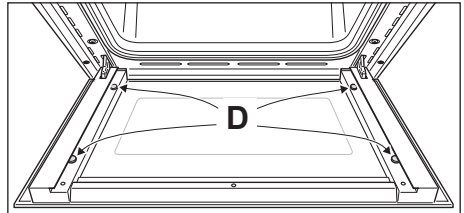

Figure 43
IMPORTANT: It is advisable, while removing the glass, to keep pressed in position the four rubber pads "D" (fig. 43), by a finger, to avoid breakage or slippage of the rubber pads themselves.
- Check that the four rubber pads are in place (“D” in fig. 43).